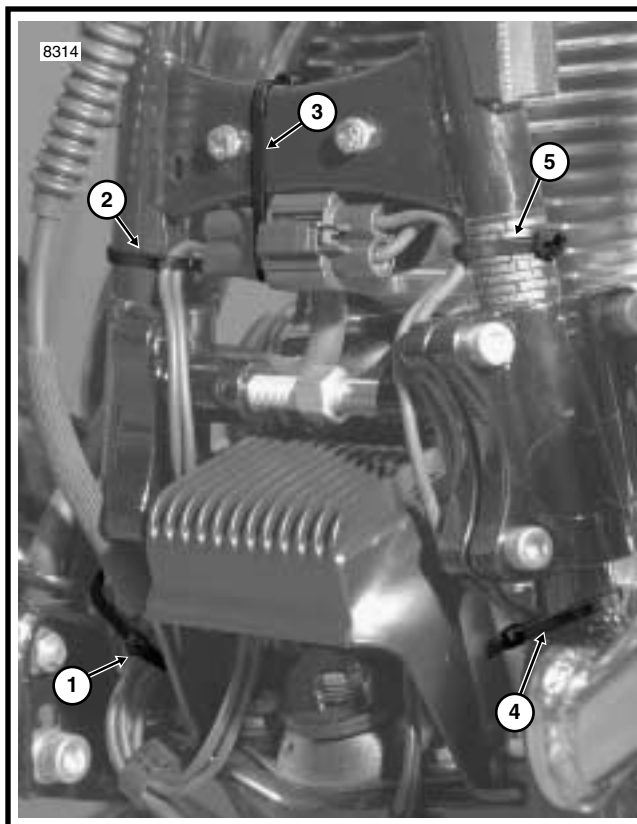

Figure 3. Side Car Cable Routing and Cable Strap Location (Left Front View)
- Cables are routed in front of the stabilizer adjuster and inboard of both the left and right stabilizers. See Figure 3.